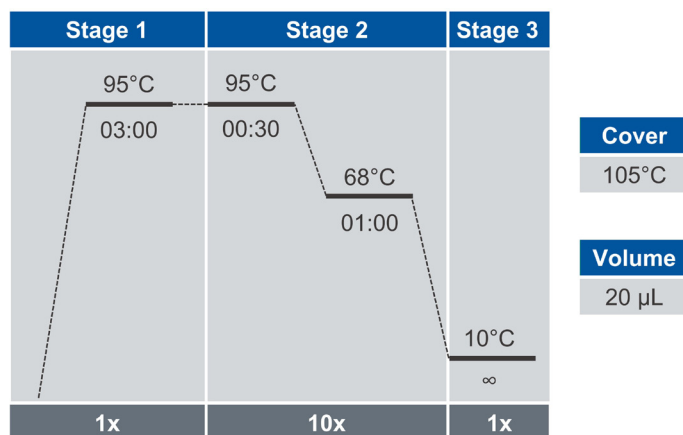

Figure 56. Olink Index PCR2 program
- Click **Open** and select the program *Olink Index PCR2*. Click **Start** (Figure 56).